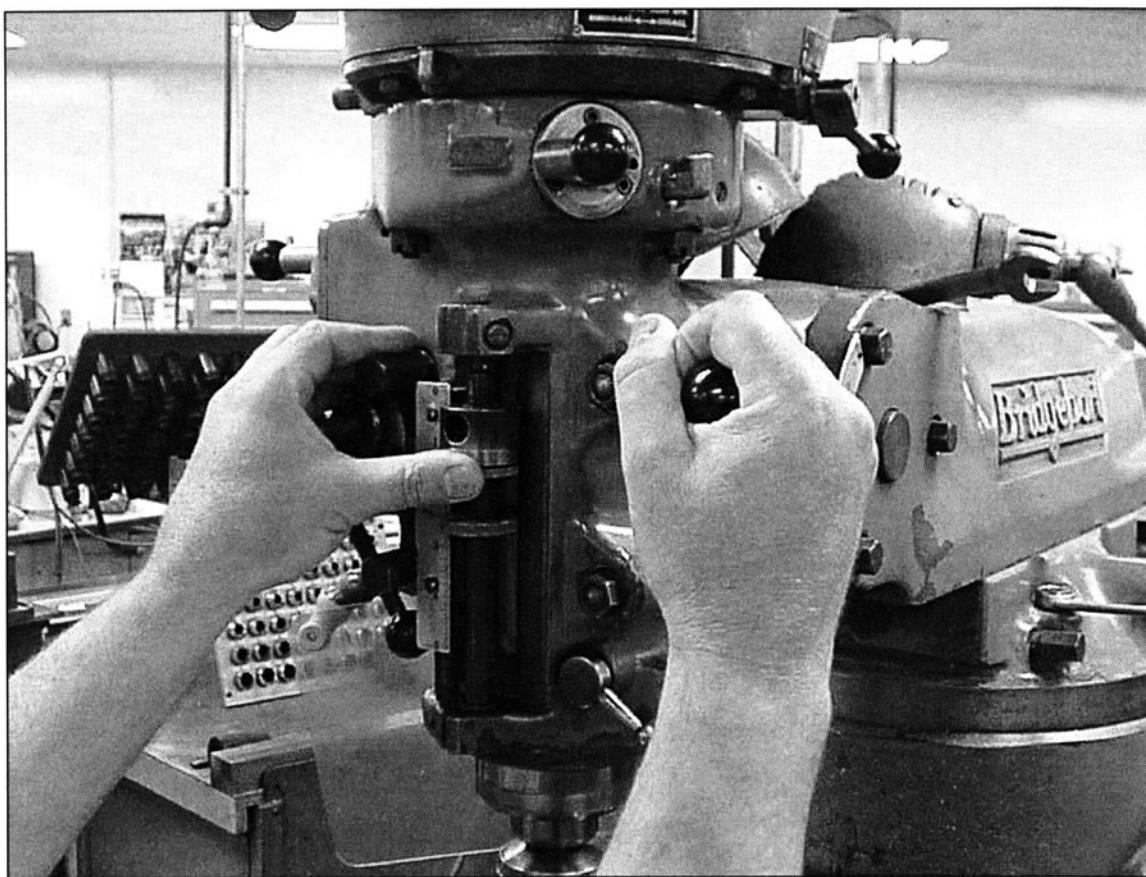

FIGURE 2-8 Pecking against the quill stop is the best way to feed small cutters in "Z".
41. *Feed small drills and cutters against the quill stop. (See Fig. 2-8)*